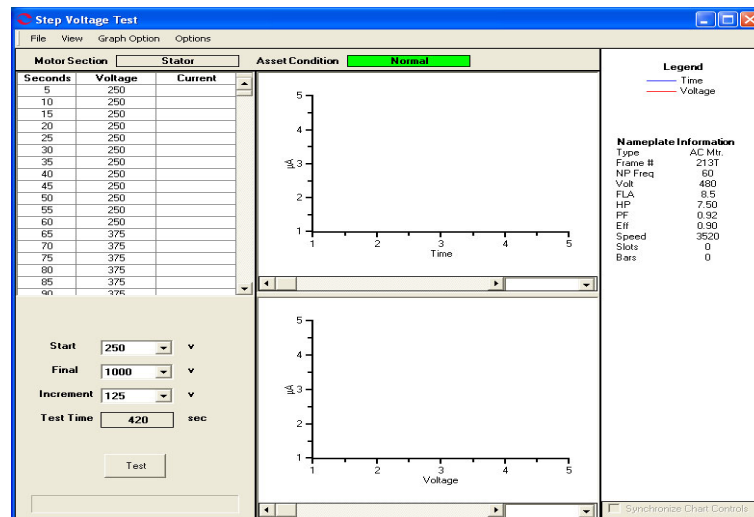

Figure 5-30: Step Voltage Test Window
11. Click **Test** to go to the Step Voltage test window. See Figure 5-30.